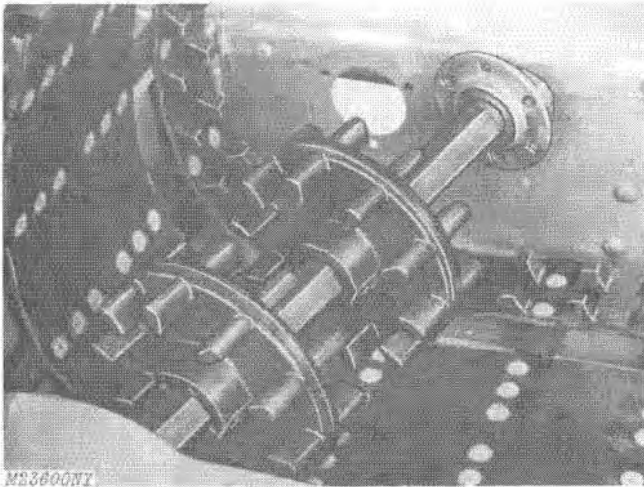

Fig. 14-Removing Drive Shaft
8. Move drive shaft toward chain case side. Lift end with spacer to remove shaft, Fig. 14.